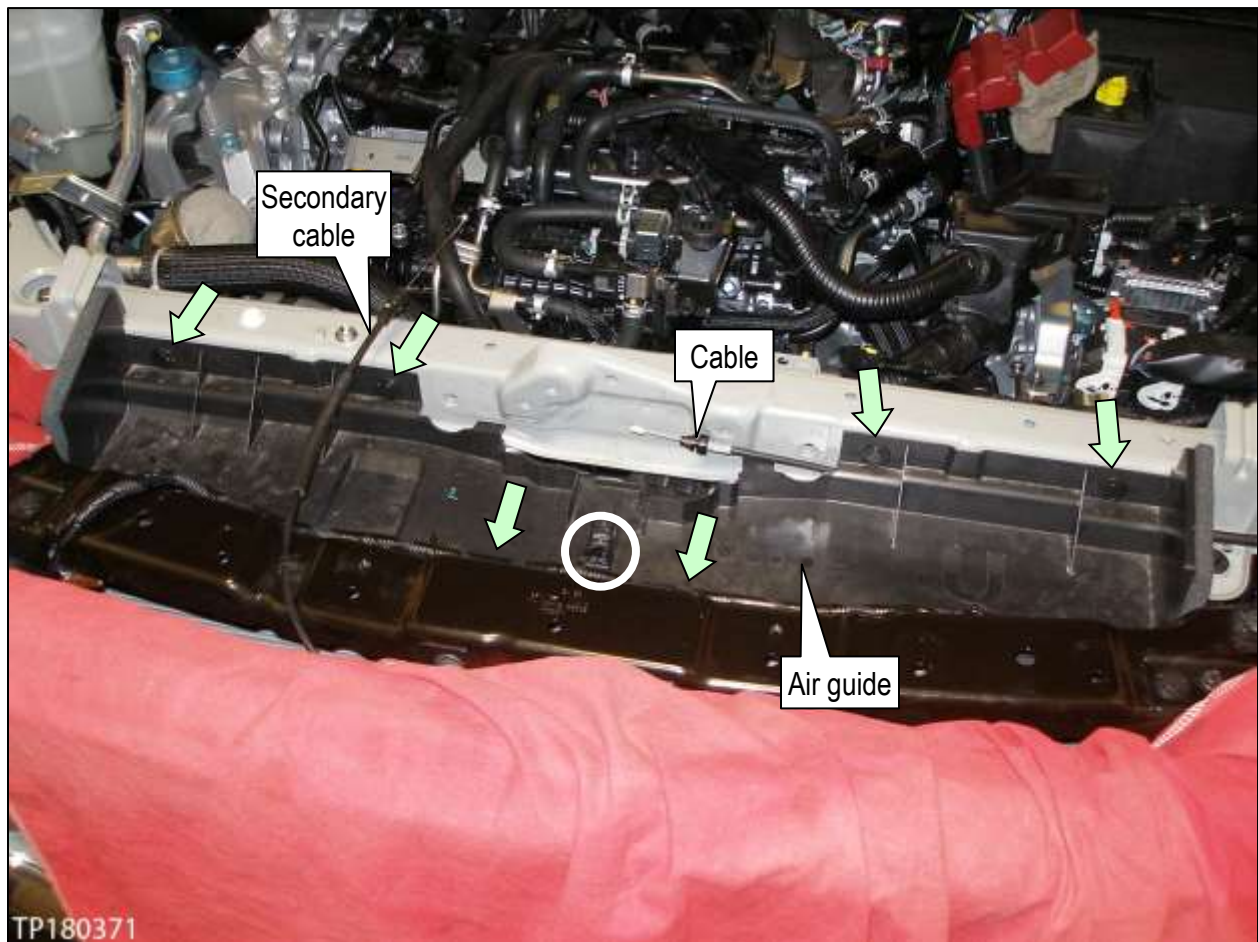

Figure 76
- See arrows for clip locations in Figure 76.
40. Fasten the harness connector to the air guide (see circle in Figure 76).